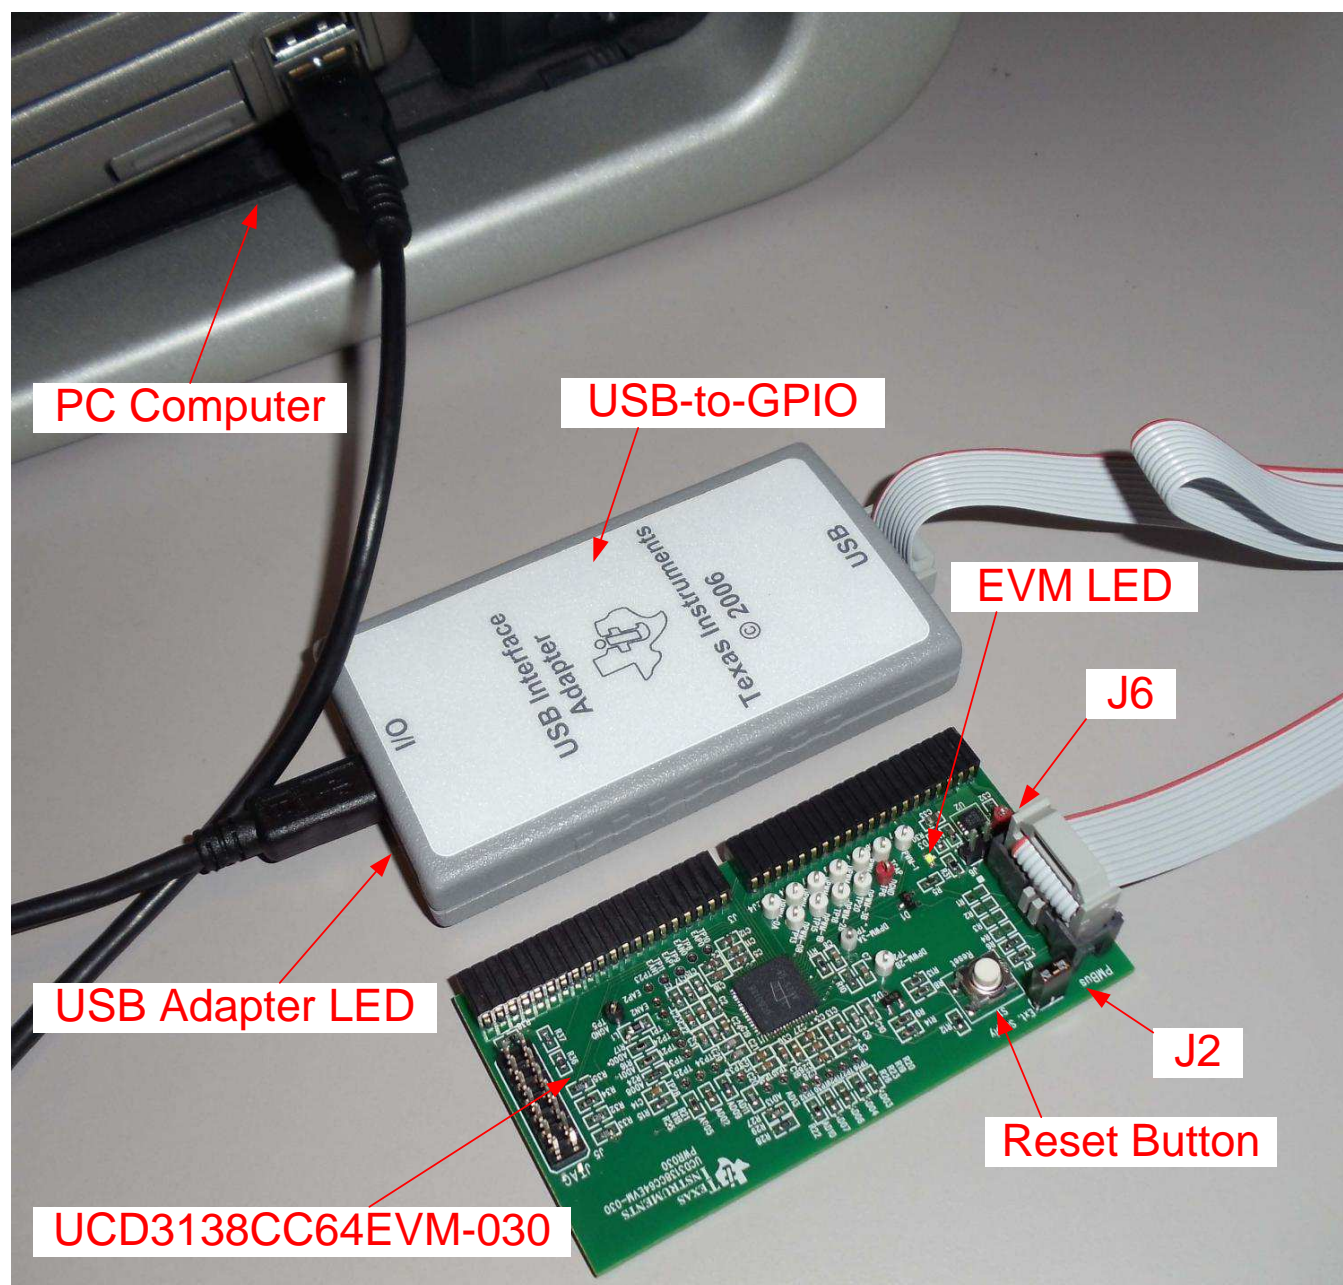

Figure 5. UCD3138CC64EVM-030 Test Connections
The connection between UCD3138CC64EVM-030 and the PC computer through USB-to-GPIO Interface Adapter is shown in Figure 5.
See Figure 5 to set up the EVM connection.
1. Set up the EVM connection based on Figure 5. The LED of USB adapter lights up.